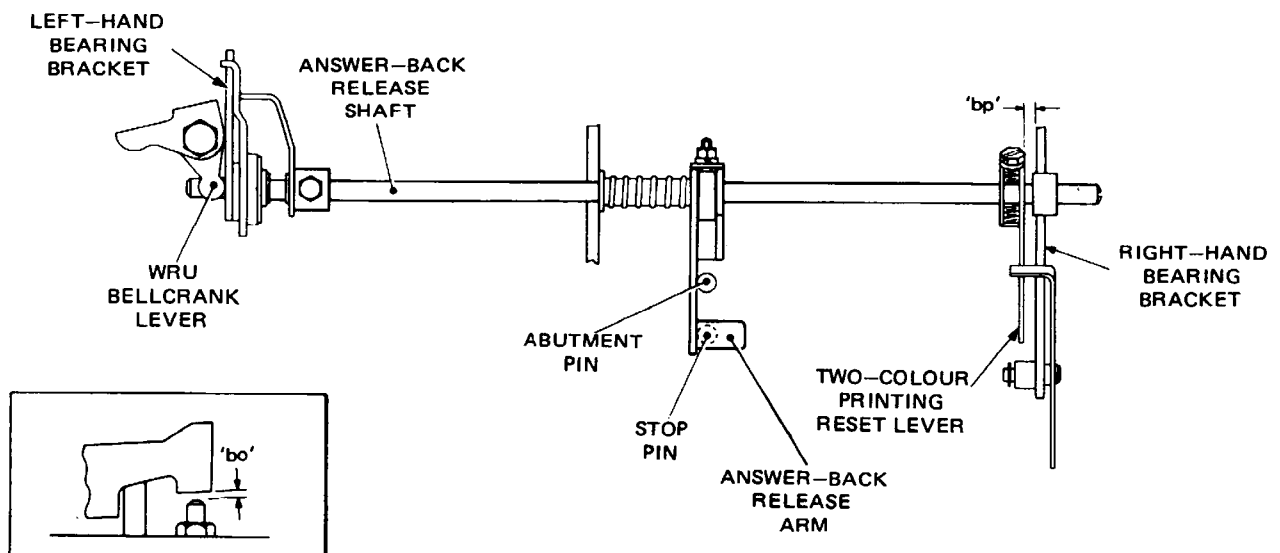

Fig. 4.70 ANSWER-BACK RELEASE MECHANISM
- 80.1 Check that the answer-back release shaft, Fig. 4.70, and its associated answer-back and two-colour printing linkages are correctly positioned, as follows.
- (b) Turn the main camshaft 90–180 degrees from the rest position, turn the trip lever to release the reset lever, Fig. 4.71, and check that it is not possible to insert a 0.005 inch feeler gauge between the answer-back release arm and the stop pin, Fig. 4.70.
- (ii) position the reset lever to give a gap 'bp', Fig. 4.70, of 0.039–0.055 inch between the lever and the right-hand bearing bracket, and